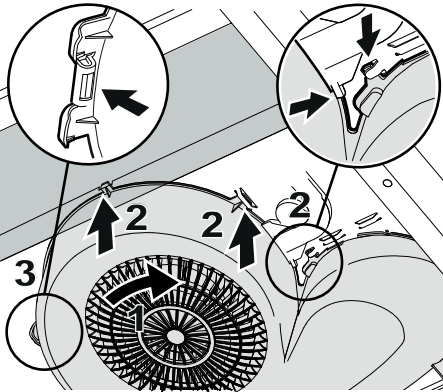

Fig. 8
Make sure all the snap retainers fit onto the cooker hood lugs. Twist the fan housing (1) into the lugs (2). Press the fan housing's snap retainer back into the lug (3).Fig. 8